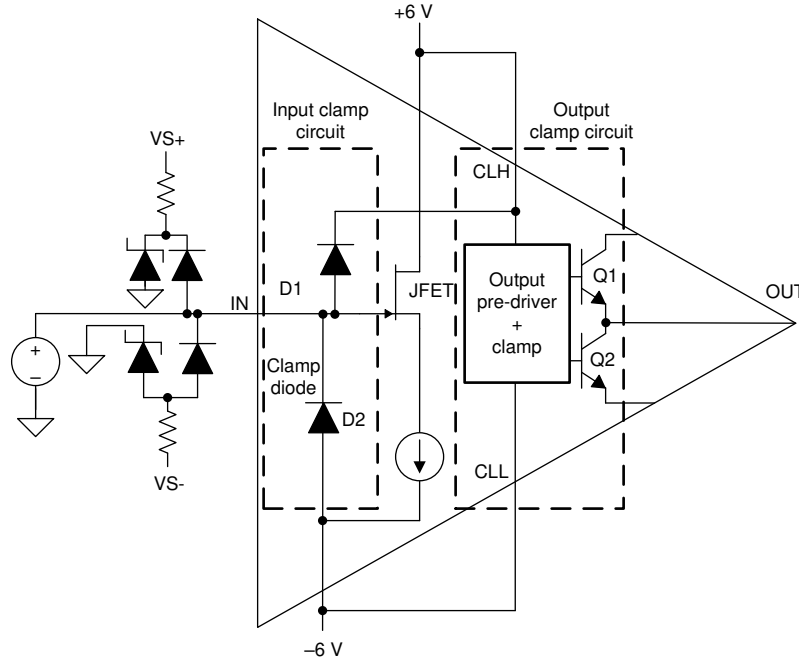

Figure 8-3. External Input Clamp Circuit
- Figure 8-3 shows how the external clamping diodes can be used in cases where the 100 mA current rating of D1 and D2 is insufficient. When using external clamping, disable the internal protection of the BUF802 by connecting CLH and CLL to  $V_{S+}$  and  $V_{S-}$ .
- As shown in Figure 8-3, the internal clamps can be disabled by connecting CLH and CLL to  $V_{S+}$  and  $V_{S-}$  respectively. When the clamps are disabled, the maximum output swing is limited by the output swing specification described in Section 6.5. The response time and accuracy of the output clamp is shown in Section 6.7.